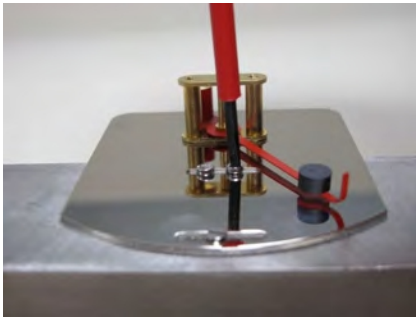

Fig. 58
- 12.** ▶ Position the display base plate onto the device body and lightly tighten the fixing screws so that the base plate can still be moved (Fig. 58). Make sure that the countersunk head screw is used for the long groove (pointer end) and the cylinder head bolt s are used to secure the base plate middle.